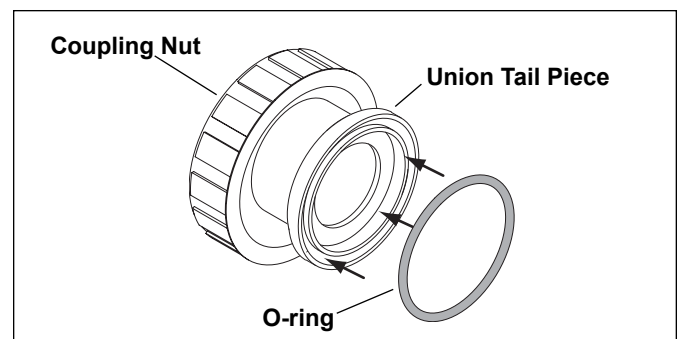

Figure 2. O-ring Placement
4. Place the o-rings on the face of the union tail pieces, where the face of the Slide Valve union will connect to the filter bulkheads (see Figure 2). Make sure each O-ring is properly seated into the groove of each union tail piece.